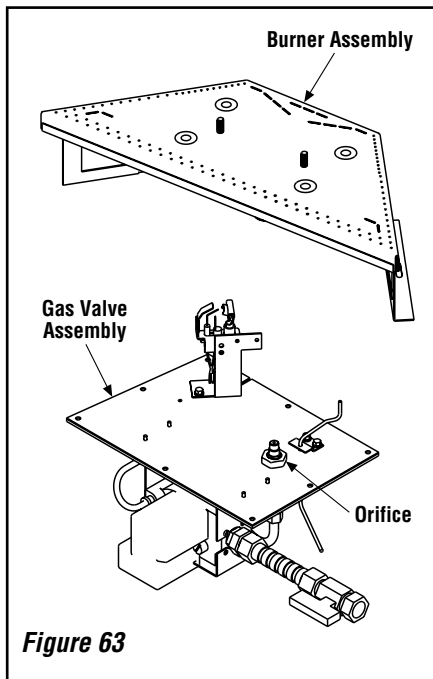
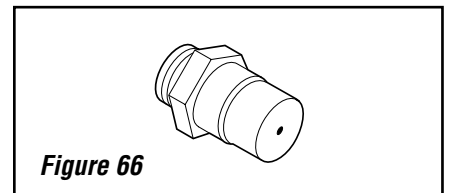

Figure 63
Figure 66
Step 5. Refer to *Figure 63*.
Step 10. (Refer to **Figure 63**) Remove the orifice from the manifold and replace it with the one provided in the kit. See the following table for orifice sizes for natural and propane models. **Figure 66** illustrates the orifice.